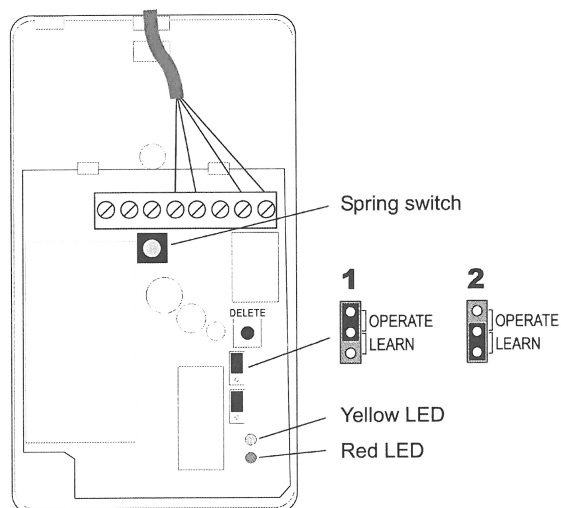

Figure 7. Receiver jumper, spring switch and LEDs
- Locate the OPERATE-LEARN jumper in the Receiver, and carefully move it from the upper OPERATE position to the lower LEARN position, shown as positions 1 and 2 in Figure 7.